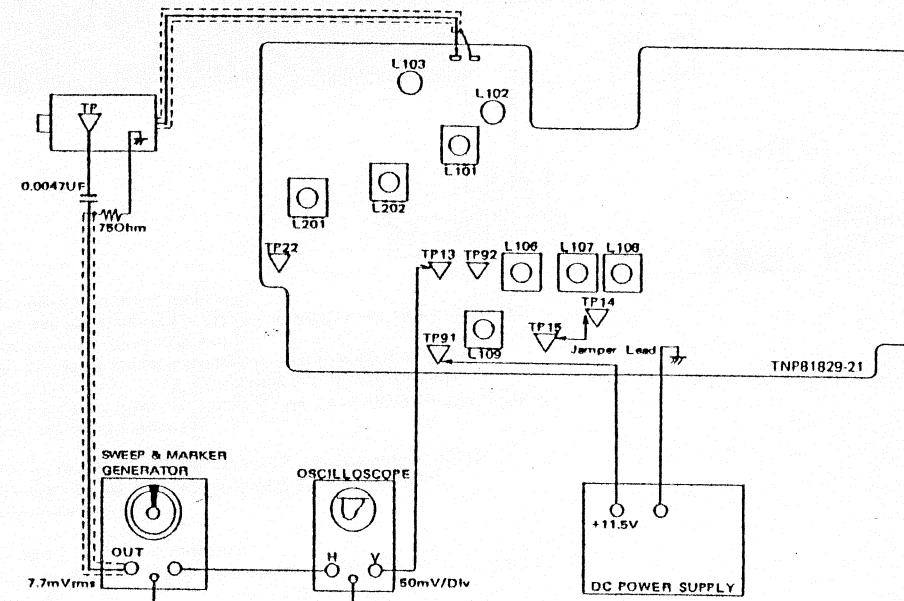

Fig. 14
1. Sweep & marker generator, oscilloscope and DC power supply Connect and set as shown in Fig. 14
2. Connect the jamper lead between TP14 and TP15 as shown in Fig. 14